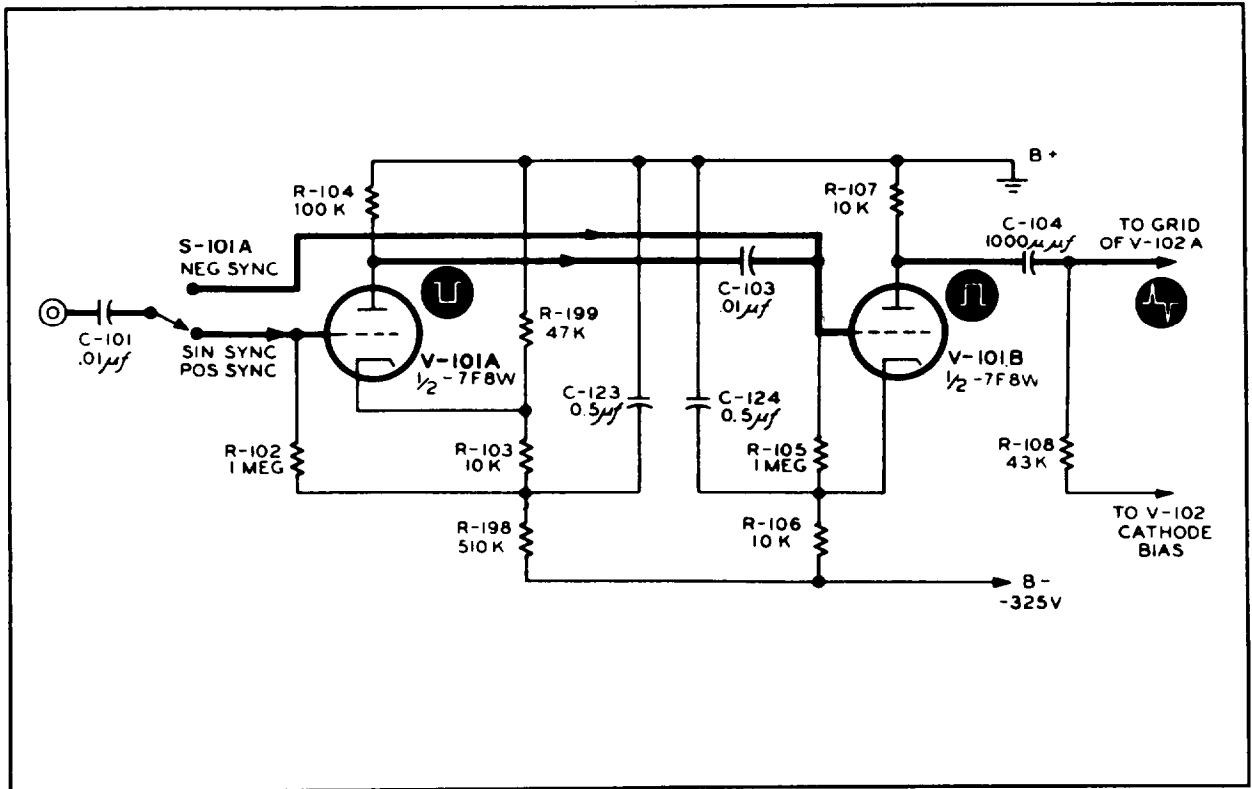

Figure 3-5. Signal Generator TS-419/U, Input Amplifier, Simplified Schematic Diagram
(5) The negative pip occurring at time T is then applied to and triggers the signal width multivibrator, V-106 and V-107, which generates a large positive pulse that is adjustable in duration over a range from 0.5 to 10 microseconds. This positive pulse is applied to the grid of the beam power tube V-108 resulting in a strong negative pulse in the primary of pulse transformer T.101. The stepped-up positive pulse from the secondary of the transformer is limited at a pre-determined level by the clipper V-110 and then applied to the focusing grid of the reflex klystron V-111, allowing oscillation for the duration of the pulse.
b. INPUT AMPLIFIER. – The input amplifier (figure 3-5) is used only when the modulator is to be synchronized to an external source of sine waves or pulses.
(1) SINE WAVE SYNCHRONIZATION. – When the external source provides sine wave signals, they are fed through switch S-101A to the grid of the amplifier tube, V-101A. This tube is nearly cut off by virtue of the bias supplied to its control grid from the voltage divider R-198, R-103, and R-199, which also serves to keep the